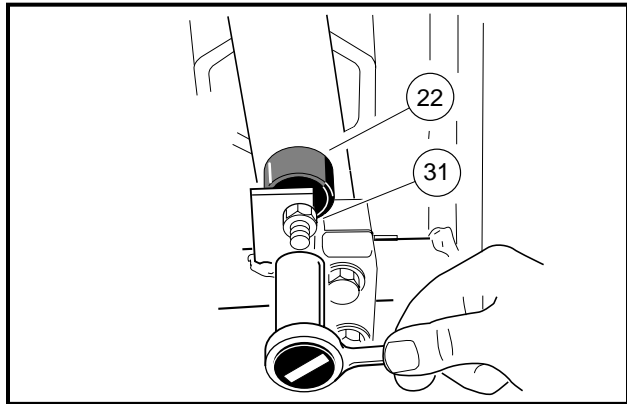
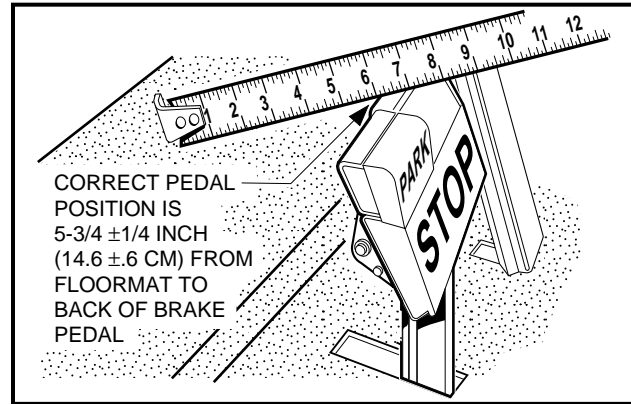

Figure 5-2 Adjust Brake Pedal Height
Figure 5-3 Measure Brake Pedal Height
- 1.3. Loosen the brake stop jam nut (31), then relieve pedal pressure on the stop by pushing down slightly on the pedal. Next, adjust the brake stop bumper (22) up or down (**Figure 5-2, Page 5-3**). Adjusting the bumper upward decreases distance between pedal and floorboard. Adjusting the bumper downward increases distance between pedal and floorboard. Proper brake pedal height is 5-3/4 ± 1/4 inch (14.6 ± 0.6 cm) (**Figure 5-3, Page 5-3**).
- 1.4. Tighten the jam nut (31) to 8 ft-lb (9.5 N·m) (**Figure 5-2, Page 5-3**).